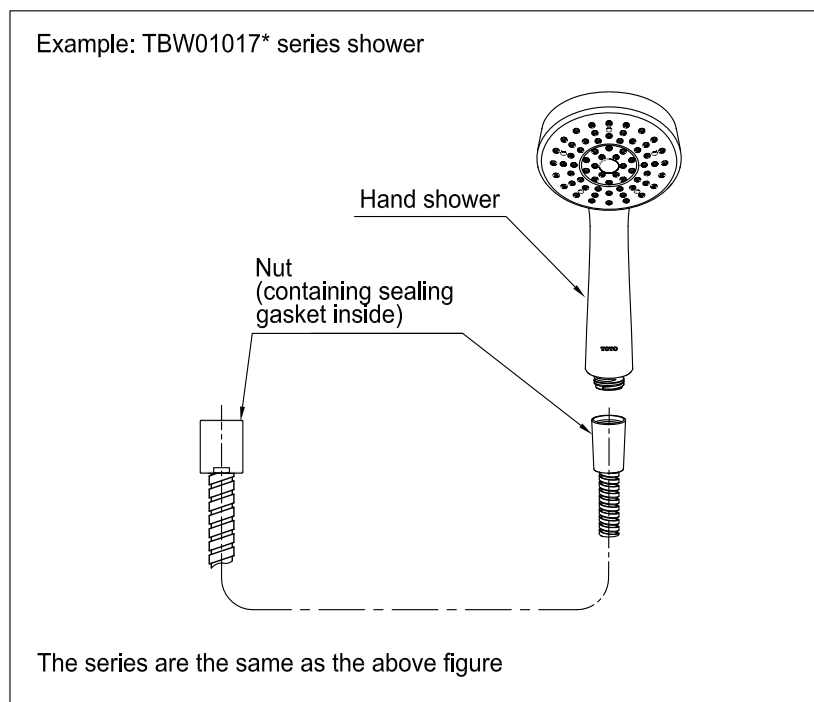

Figure 2: Shower hole installation
- (1) Confirm if any sealing gasket exists in the nut;
- (2) Connect the hose with the screw threads of the water nozzle part, as shown in figure 2.